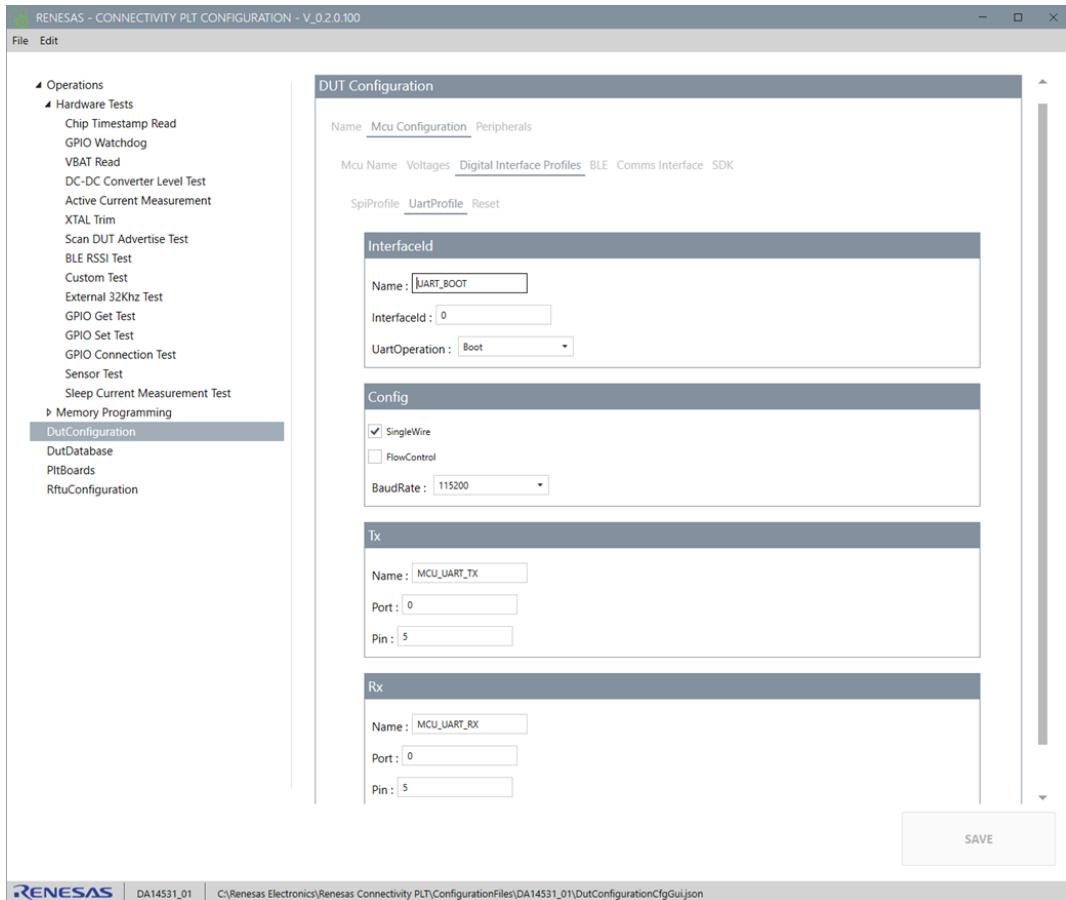

Figure 43. UART profile configuration
- **UART Profile (Figure 43)**